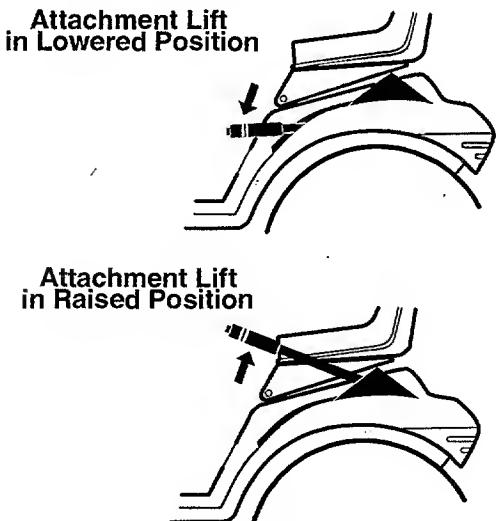

Figure 2
- Park the tractor with the unit on a level surface. Use the tractor lift to raise the unit to the transport position. See figure 2.